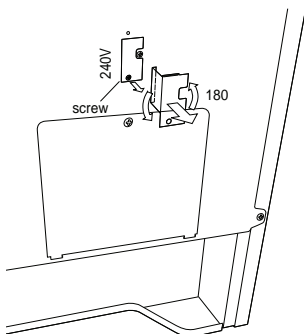

Figure 3
- 2 Remove the screw and rotate the switch plate 180° as indicated in the Figure 3.